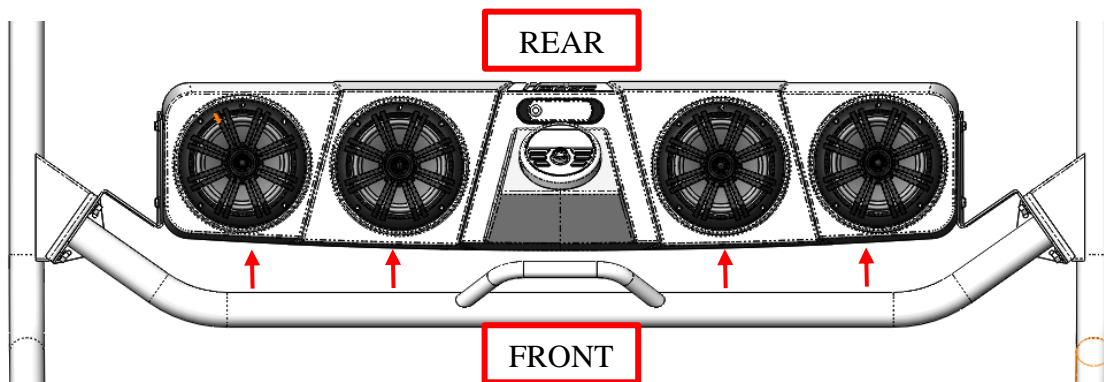

Figure 8: Audio Mini evenly spaced away from cross member.
5. Tighten the 4 cross member bolts so that the *Audio Mini* is evenly spaced away from the front cross member. See Figure 8.